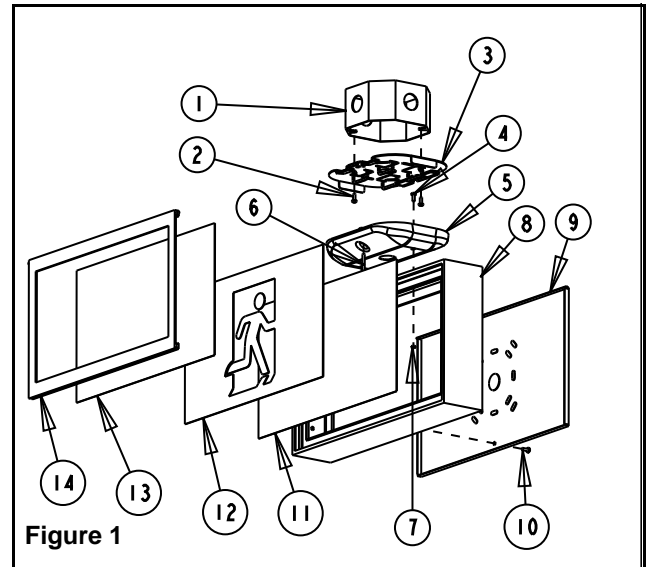

Figure 1
- c. Fasten the canopy to the frame using #8-32 Short screws and keps nuts provided (see Figure 1).